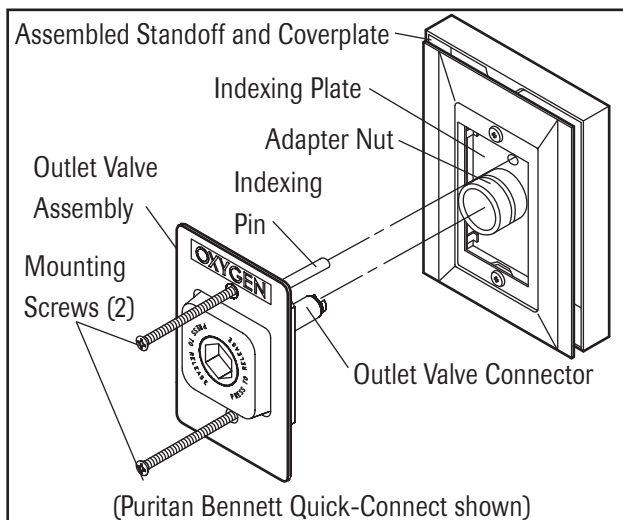

Figure 13
Outlet Valve Installation (Figure 13)
2. Align the assembled parts with the mounting box and insert the outlet valve connector into the adapter nut while also inserting the indexing pin into the hole in the indexing plate (Figure 13).